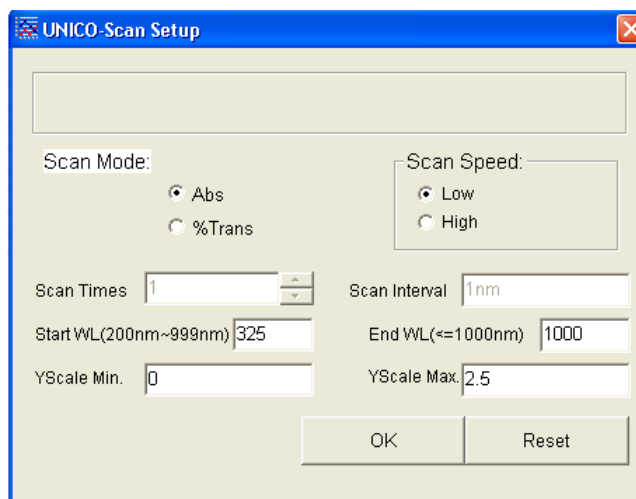

Figure-35 Scan Parameter Setup
- Step 2: At the **Main Screen of Scanning**, select **Scan Mode (Abs or %Trans)** and **Scan Speed** at the pop up **Scan Setup** window (Figure-35).